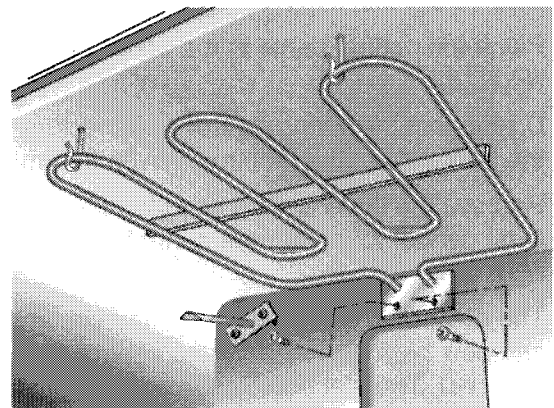

Fig. 9
2. Remove the two (2) screws securing the broil element to the rear wall of the oven cavity. (Fig. 9)
3. Lift the broil element slightly and unhook the element from the wire hangers securing it to the oven cavity top. (Fig. 9)
4. Carefully pull the broil element forward far enough to access the wiring harness connectors and remove the connectors from the broil element terminals. (Fig. 9)